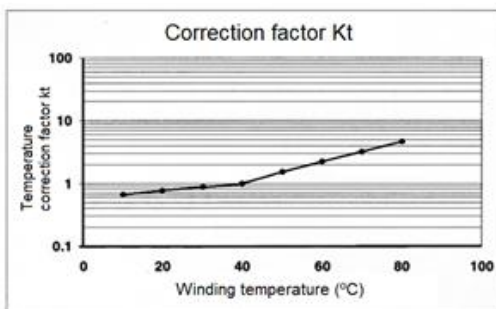

Figure 4.3: Insulation resistance correction factor due to temperature
The insulation resistance measured on the windings shall be converted to 40 ° C using the correction factor provided in Figure 4.3 (IEEE43 standard) and applying the following formula:
- Kt = Insulation resistance correction factor as a function of temperature, as shown in Figure 4.3,
The values used to generate the curve of Figure 4.3 are shown in Table 4.1.